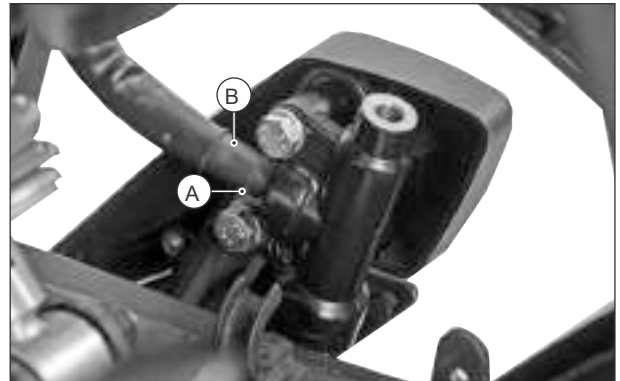

Fig. 6.124
- Remove clip hose (A) and take out hose oil (B). (Fig. 6.124)